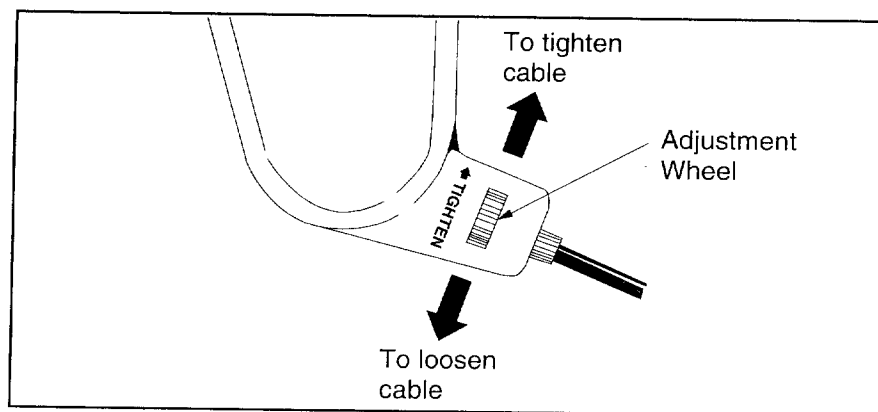

FIGURE 22
- To resolve the above problems, rotate the adjustment wheel with your fingers: clockwise to tighten the cable, and counter-clockwise to loosen the cable. See Figure 22.